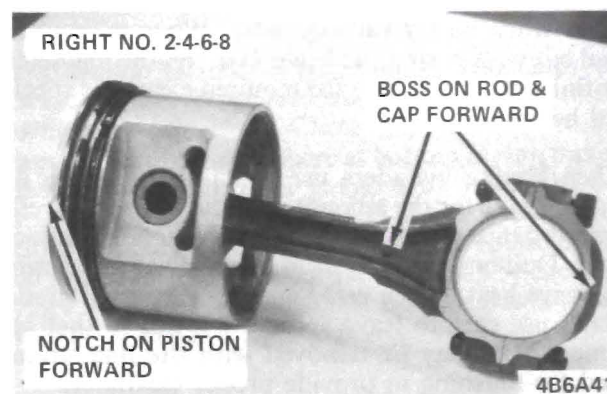

Figure 6A-89 - Right Bank Piston and Rod Assembly (455 Cu. In. Engine)
3. If the piston and rod assembly is to be installed in the *right* bank, the assembly must be made as shown in Figures 6A-89 and 6A-90.